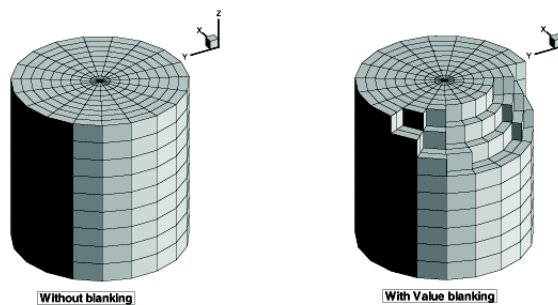

Figure 7-4. Examples of plots where **Surfaces to Plot** has been set to “Exposed Cell Faces” with (left) and without (right) value-blanking.
- **Exposed Cell Faces (default)** - This setting is similar to the “Boundary Cell Faces” setting, unless value blanking is active. When value blanking is used, the outer cell faces between blanked and non-blanked cells and the outer surfaces of the data are drawn. Figure 7-4 shows